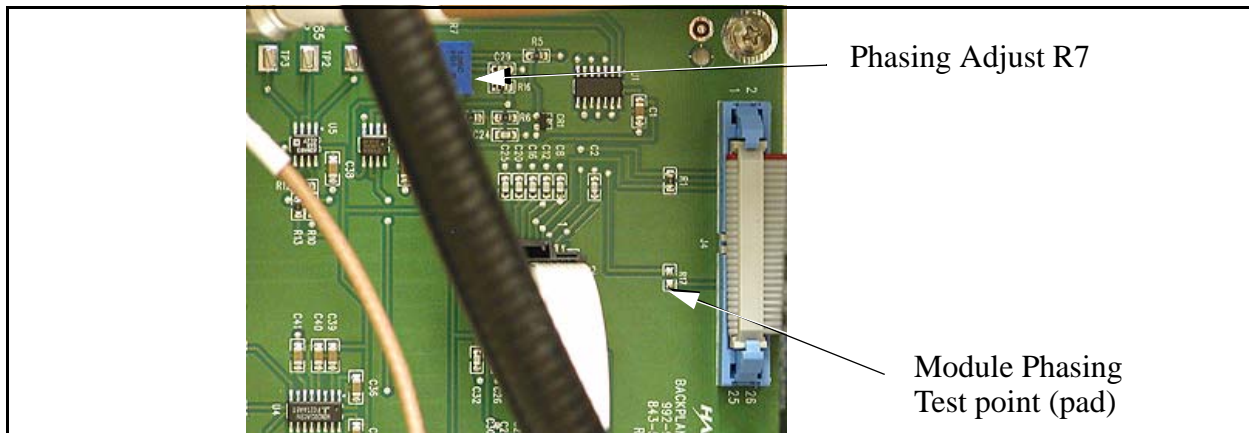

Figure 3-14 Test Point for Module Phasing
- STEP 2** Using a digital voltmeter, monitor the test point on the Backplane Interface board shown in Figure 3-14.